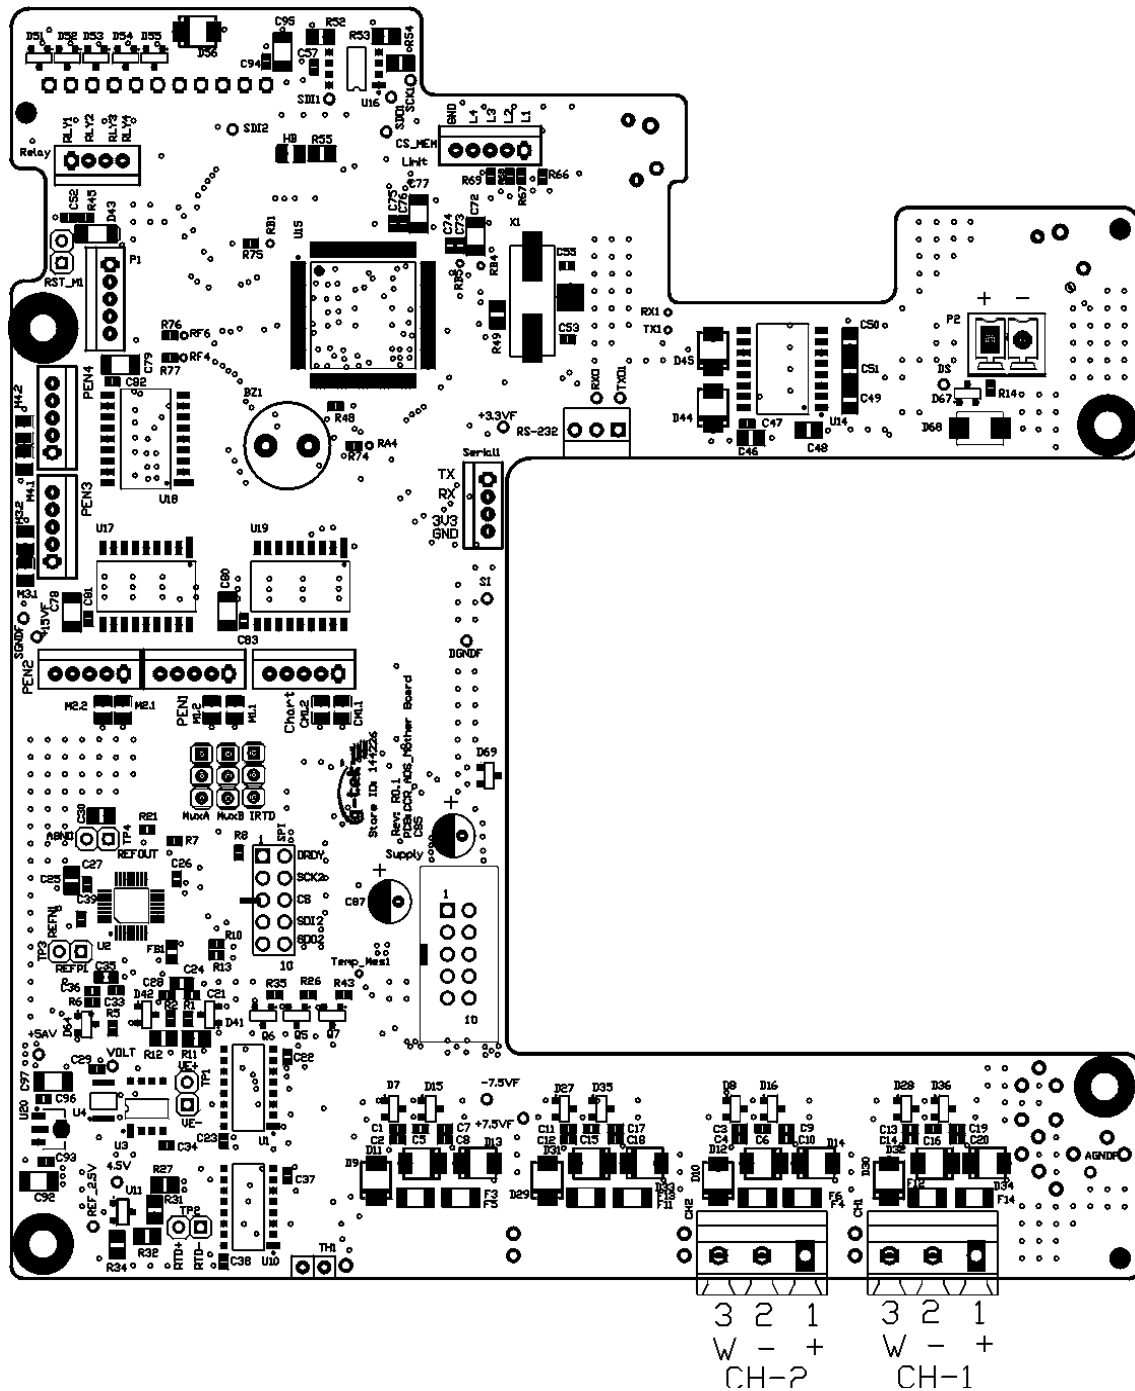

Figure 9 - Motherboard PCB
6. All local electrical codes of practice must be followed when installing any instrumentation. Please refer to the back panel of recorder to know the type of sensor input. For sensor wiring follow the steps mentioned below in figure 8. The Sensor PCB and the Sensor connector are shown in figure 9.
1. Pin No 1 ,2,3 are shown in the above figure 9.